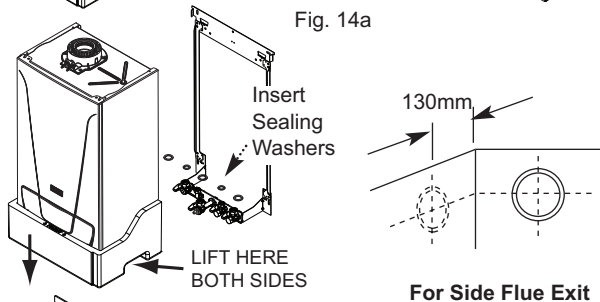

Fig. 15
3. Mark the position of the centre of the flue hole (rear exit). For side flue exit, mark as shown (Fig. 15).